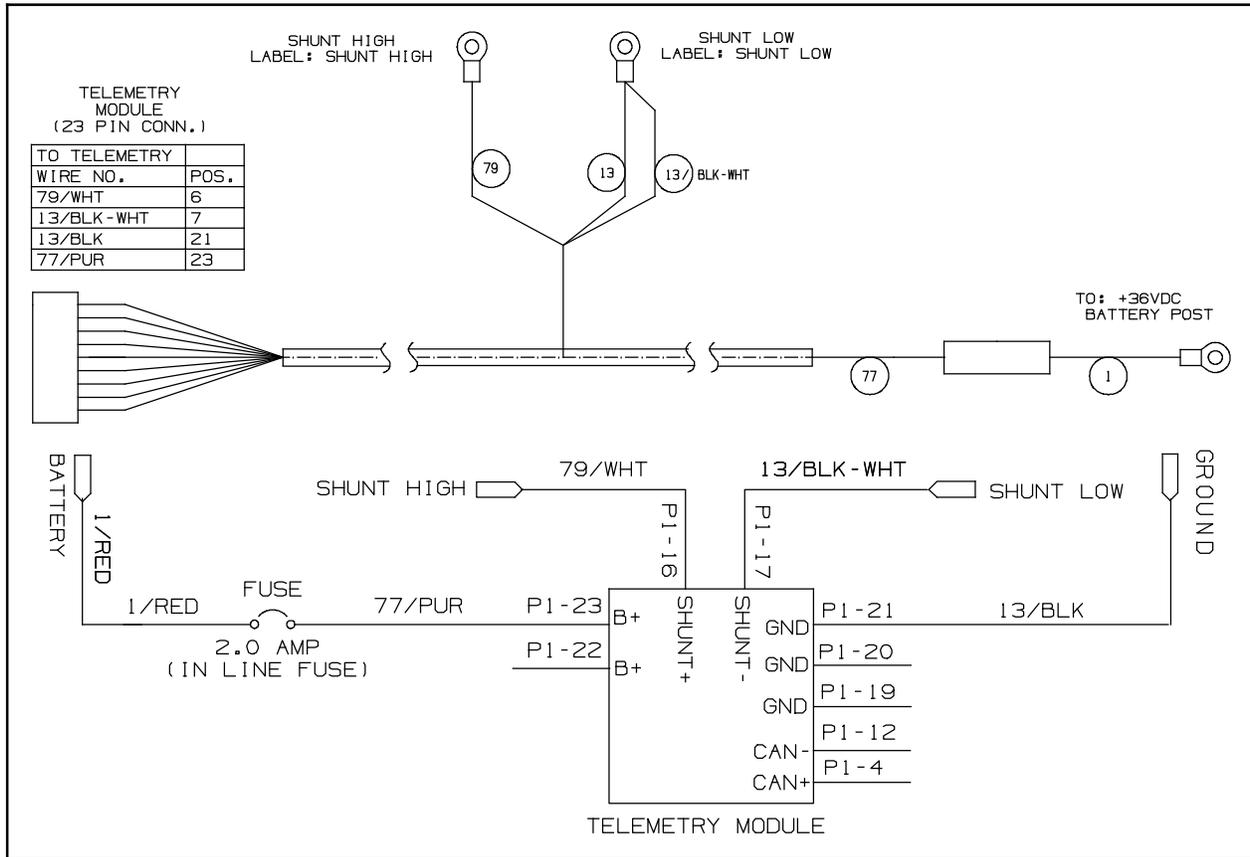

FIG. 5
13. Connect the telemetry harness (2) to the battery cable (13) red cable attached to the battery positive terminal. (Fig. 4 / Fig. 5)